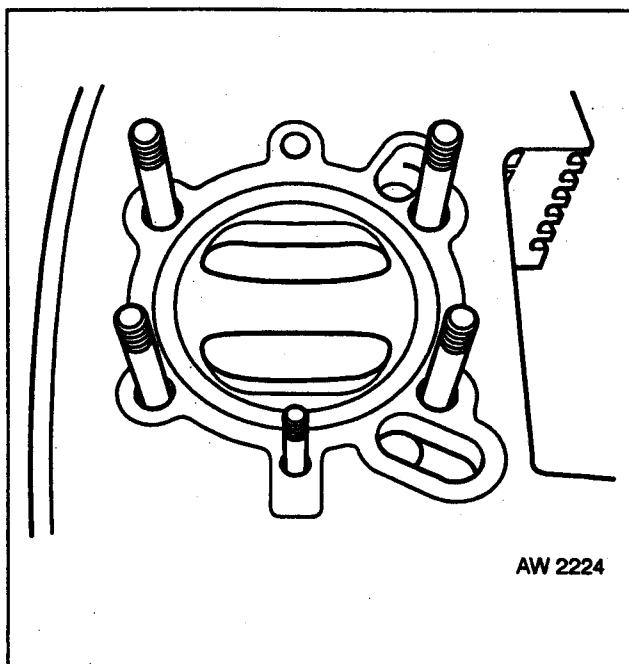

Fig 2.8 Cylinder Removal
- d. Once the cylinder head is removed the cylinder can be lifted from the crankcase by sliding up the studs (Fig 2.8 refers). The cylinder base gasket can now be removed.